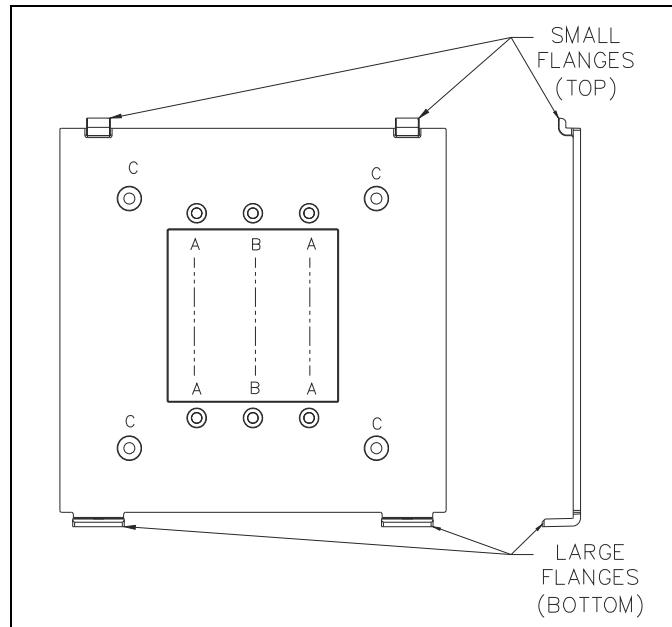

Figure 3. Smart Controller Wall-Mount Bracket
- Orient the wall-mount bracket (see Figure 3) over the electrical box with the small flanges on top and the large flanges on the bottom.
2. Mark the locations (C) for the four wall anchors or toggle bolts (not included) and the area in the center of the bracket where the cable(s) come through the wall using the support bracket as a template (see Figure 3).